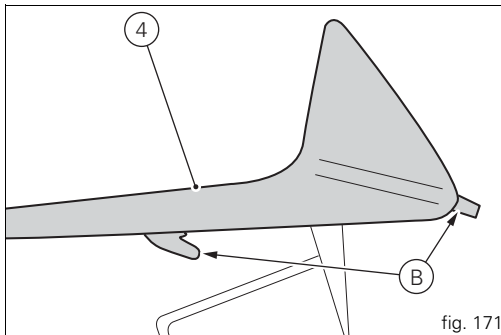

fig. 171
Reconnect the connector (5) and refit the structures that were removed being careful to insert the tabs (B, fig. 171) into the slots (A, fig. 170) made in the top fairing.